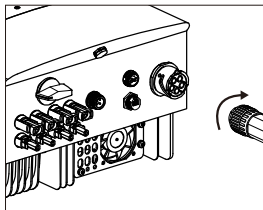

Figure 5.24 AC connector to inverter
C) Connect AC connector with inverter, then tighten AC connector for clockwise (see figure 5.24), until hearing a slight clicking sound indicates connection succeed.